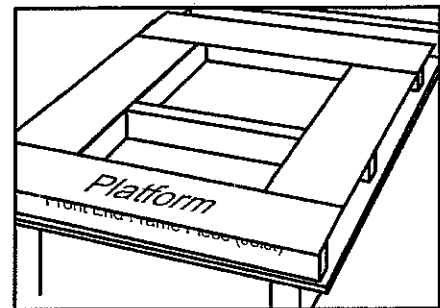
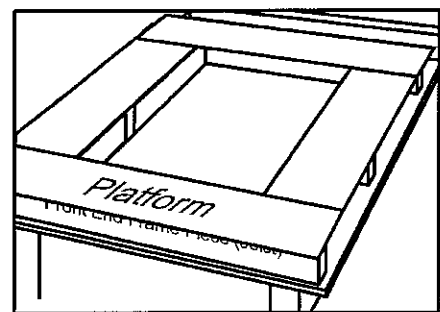

Figure 16
Figure 17
4. Build a platform around the top of the framed opening using at least 1" X 4" lumber nailed to the frame and joist (See Figure 16). It must extend wide enough to support all edges of the fan plenum creating an air seal and forming a duct from the living space to the fan thus assuring the air is drawn only from the home below, maximizing fan effectiveness. Then the joist(s) across the opening may be cut flush with the edge of the opening (Figure 17).